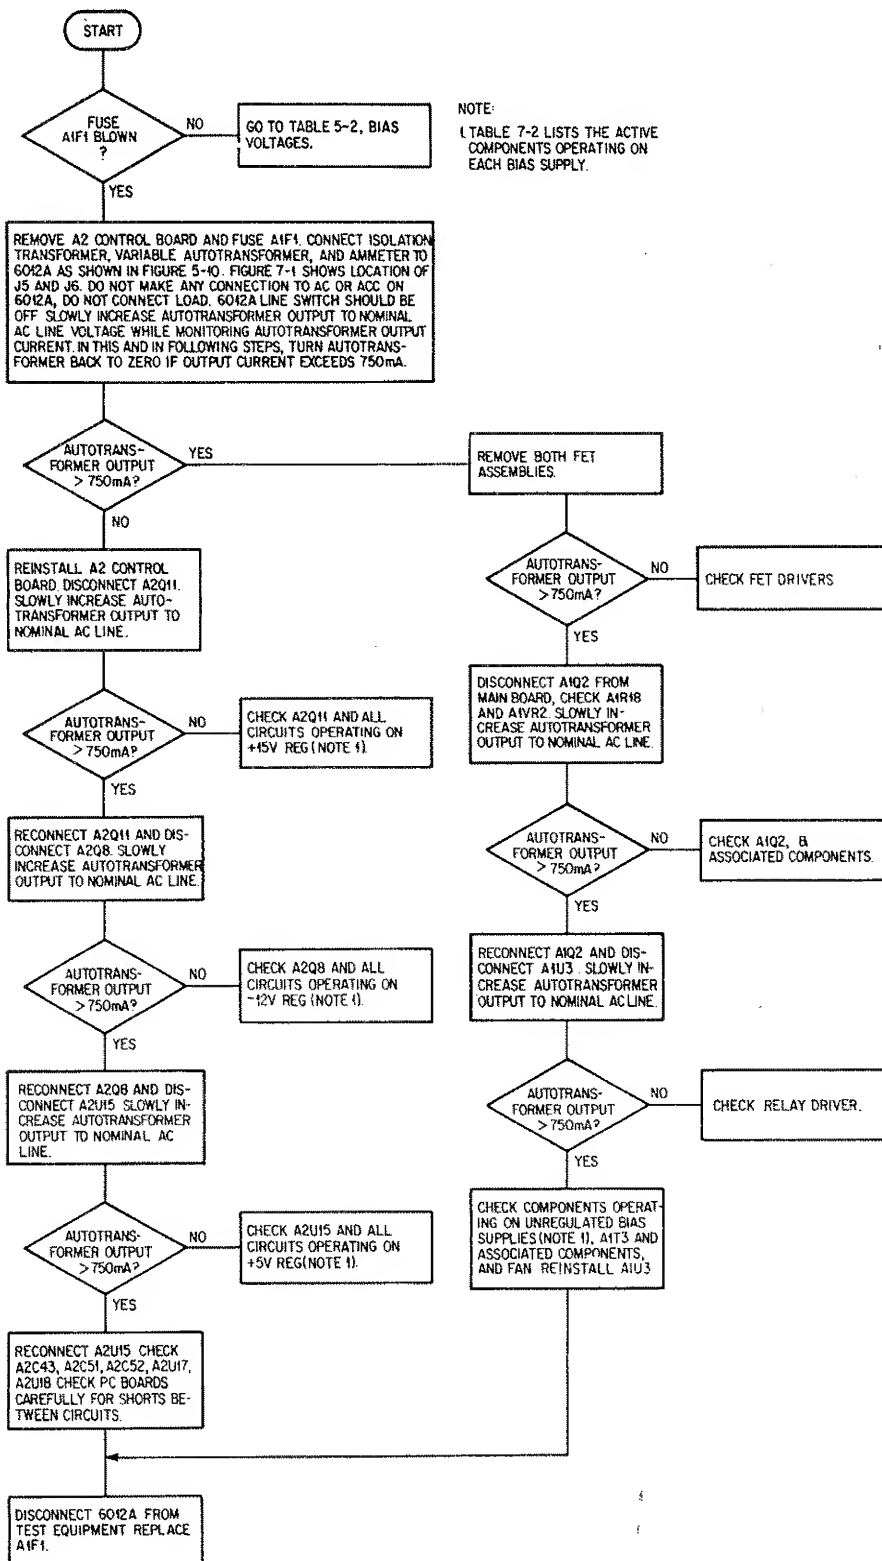
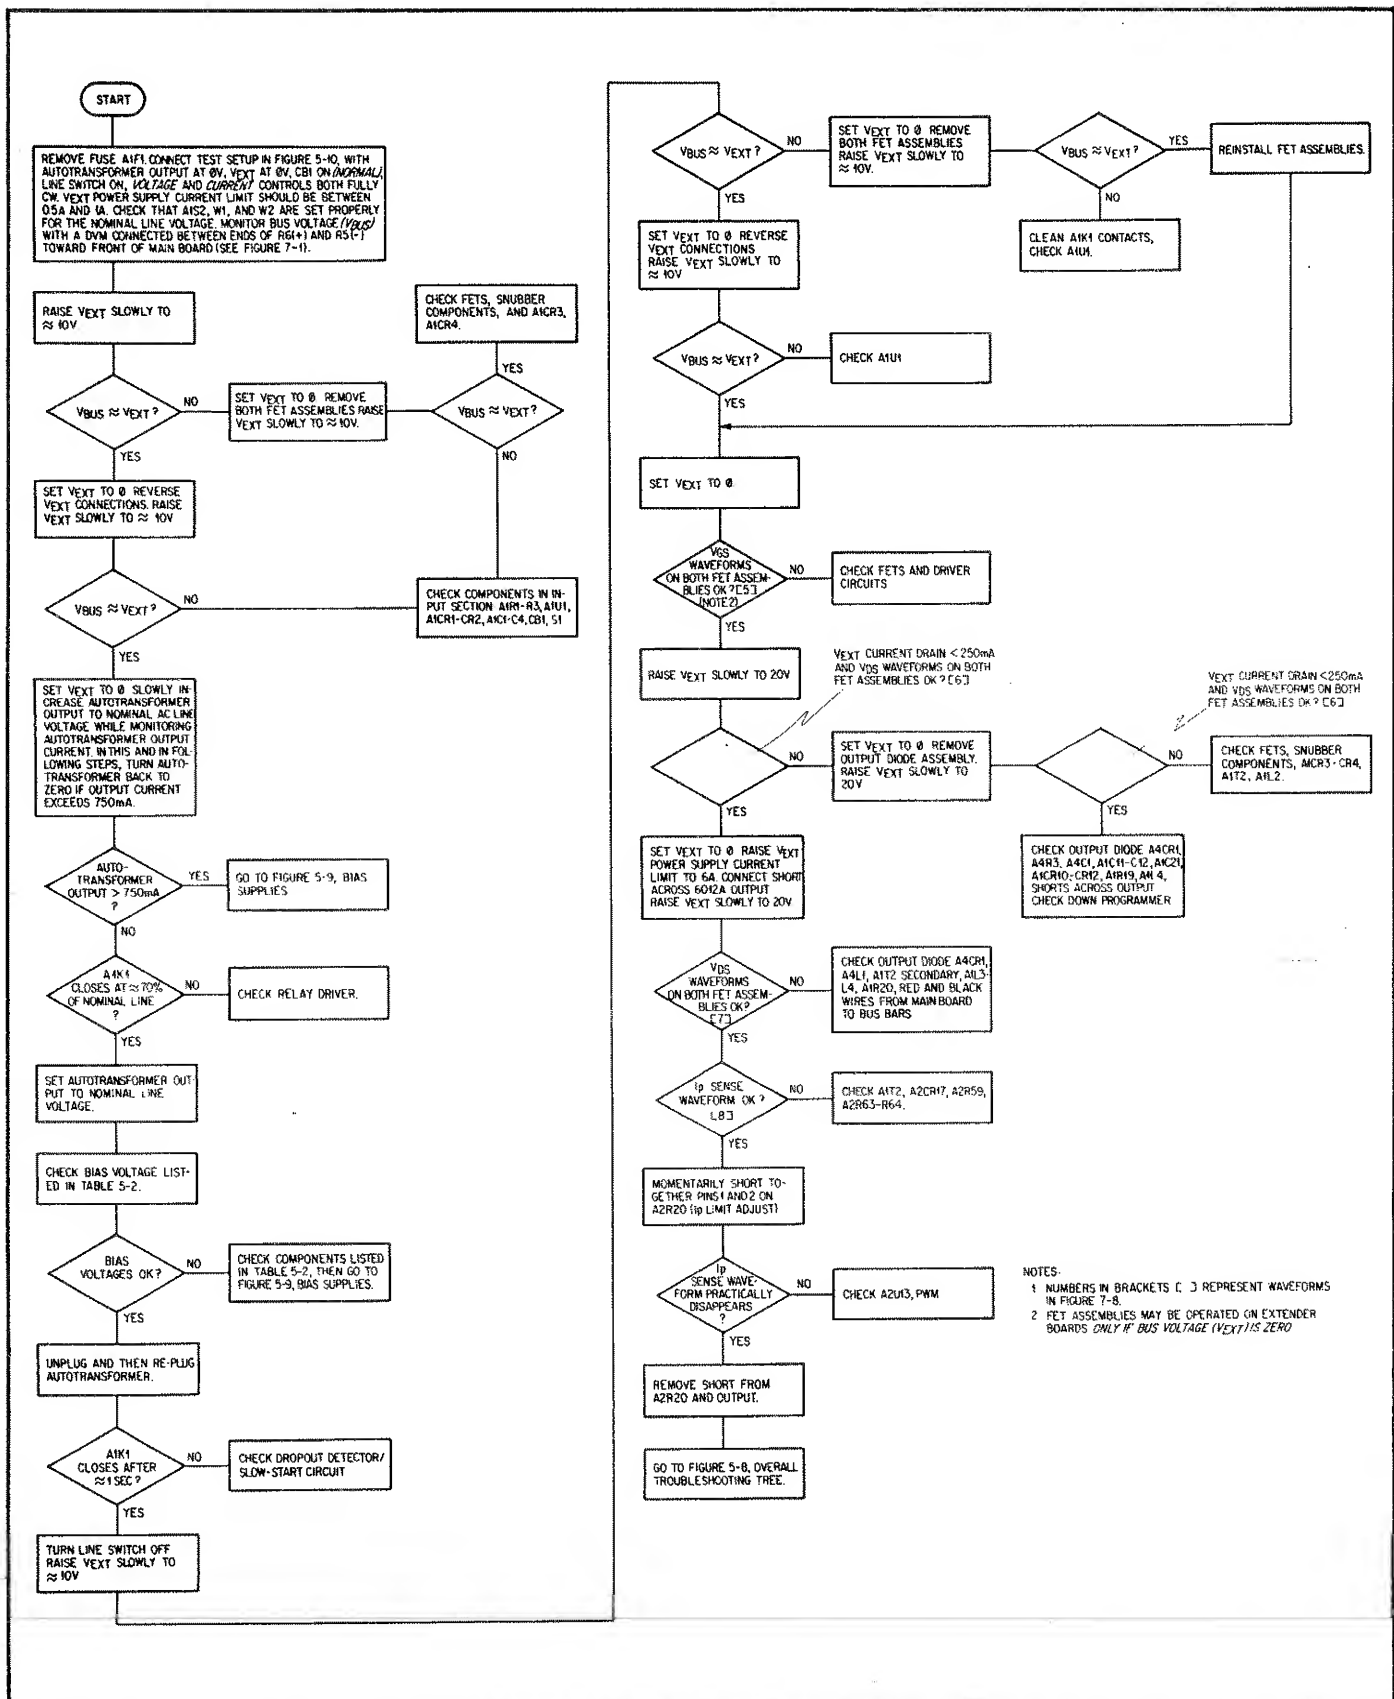

Figure 5-9. Troubleshooting Bias Supplies
Figure 5-11. Slow Start Procedure
- a. Check that input power is available, and check the power cord and rear-panel circuit breaker. If breaker trips while power is on, or if breaker is found to be tripped at any time for unknown reasons, refer to Figure 5-11, Slow Start Procedure.
After using the overall troubleshooting tree (Figure 5-8), bias supplies troubleshooting tree (Figure 5-9), and slow-start procedure (Figure 5-11) to isolate a fault to a particular circuit, use the following guidelines with the schematic and standard troubleshooting techniques to locate the fault.